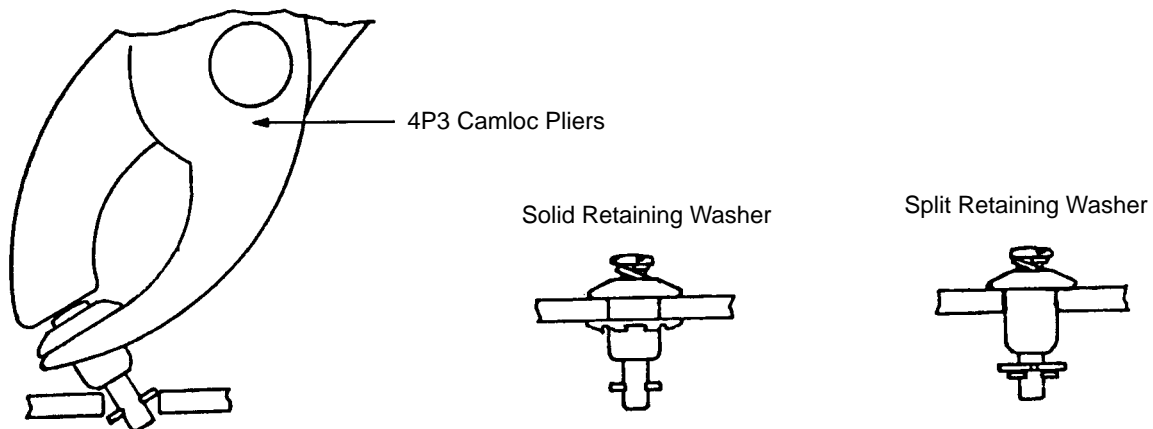

Figure 6 - Installation of 2600/2700 Series Studs
- 5.3.3 Install 2600/2700 series studs using Camloc 4P3 pliers and fit the retaining washer as shown in Figure 6. If the engineering drawing does not specify a washer type, use a split washer. For 2600 series installation only, if the fastener hole is opened up for lateral movement, use a solid washer. Install 2600-LW and 27S5-1 solid retaining washers using a T-98-1 retaining washer installation tool.